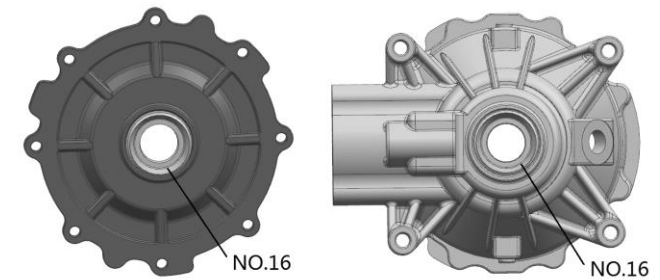

Fig 15
2. Replace the Oil Seal 30×50×13.5 (NO.16) located in the main gearcase and gearcase cover → Fig 15